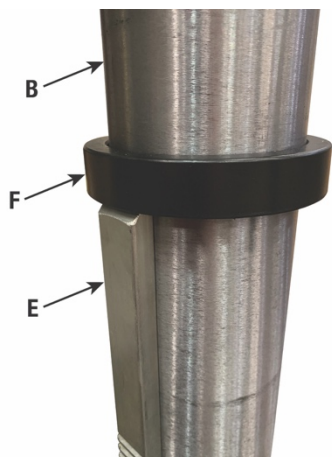

Figure 6-3: Remove Rack Ring and Rack
1. Remove the rack ring (F) and rack (E) from the column assembly (B) (see Figure 6-3).